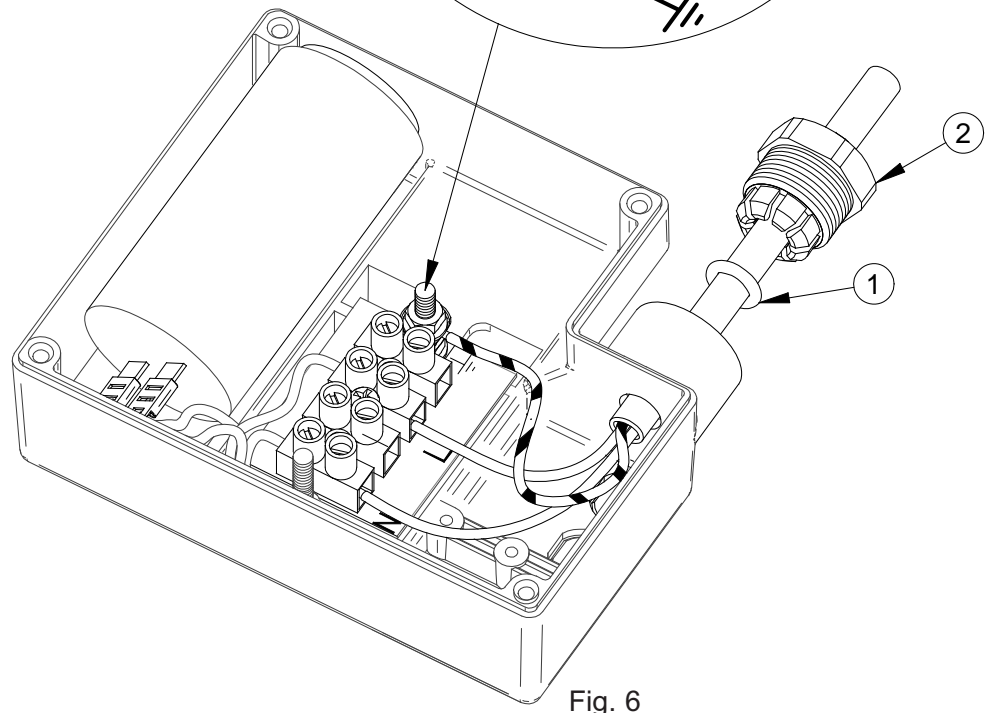

Fig. 6
The cable gland assembly Fig. 6 (items 1 & 2) provides the necessary protection against ingress of solid objects and moisture as well as providing cable retention.
3. Disassemble cable gland as shown in Fig. 6 and insert cable into position ensuring 'O'-ring (item 1) is placed over the cable before the clamping insert (item 2) is tightened.
7. Confirm cable routing is as shown in Fig. 6 and assemble and secure terminal box lid.